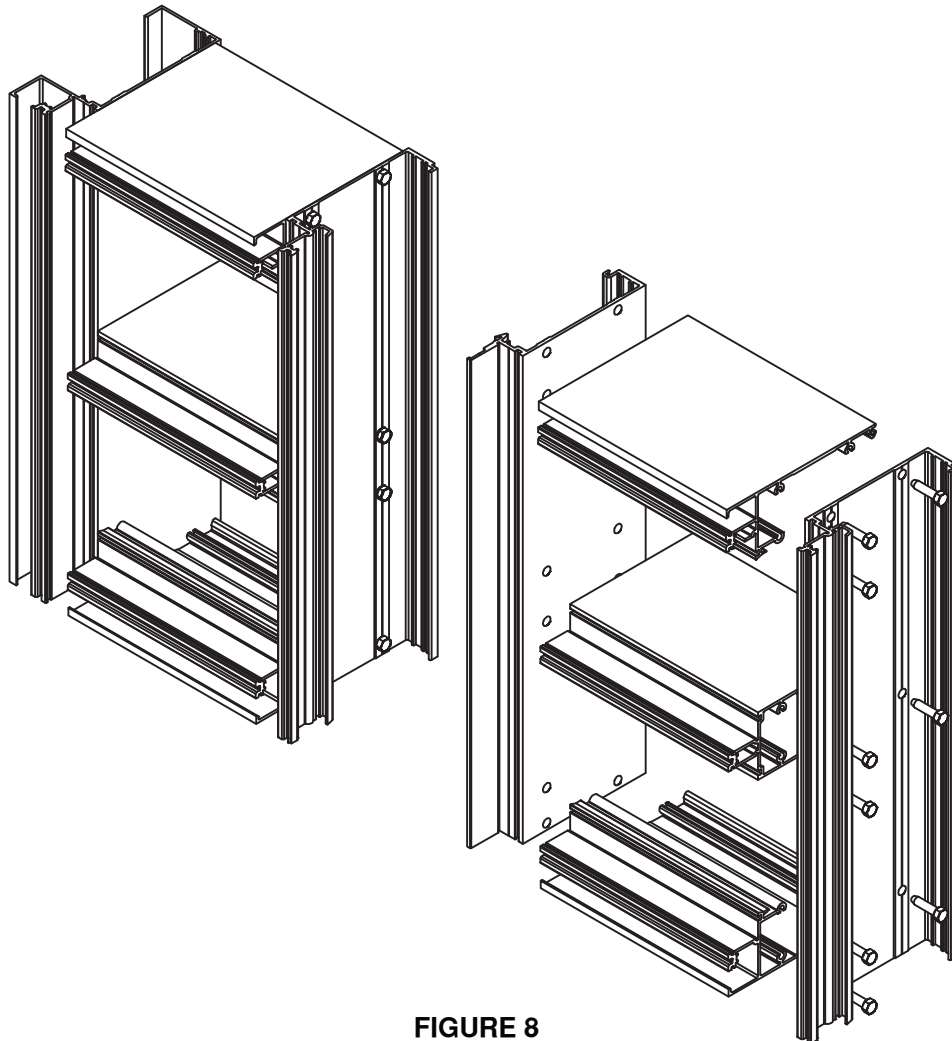

FIGURE 8
- 2.1 Starting with the left jamb of the opening, lay out verticals and horizontals for assembly of the bay. **SEE FIGURE 8.**